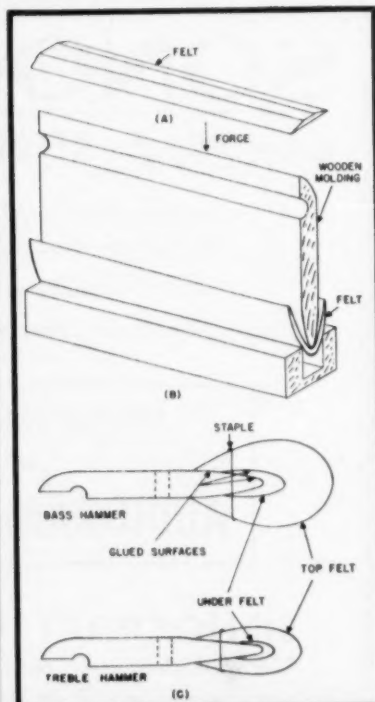

Fig. 10. Felt hammers and their construction.
We now come to the hammers. These are made as an entire group, as illustrated in Fig. 10. In (A) is shown a long strip of felt, cut in a jig with a sharp knife to the tapered shape shown. The felt is of special quality wool, and the manufacturers are rather proud of their product. The narrow end will be for the treble hammers; the wide end, of course, for the bass hammers.